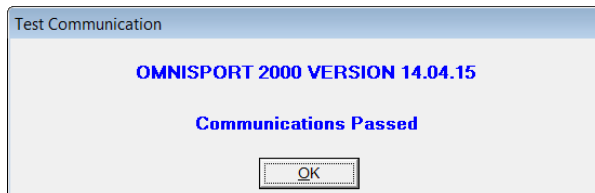

Figure 18: Communications Passed
7. Go to **Interfaces > Track Button Timer - OmniSport 2000 > Test Communication**. When all connections and configurations are correct, the *Communications Passed* message appears with the version of firmware in the OmniSport 2000 console (**Figure 18**). Click **OK**.